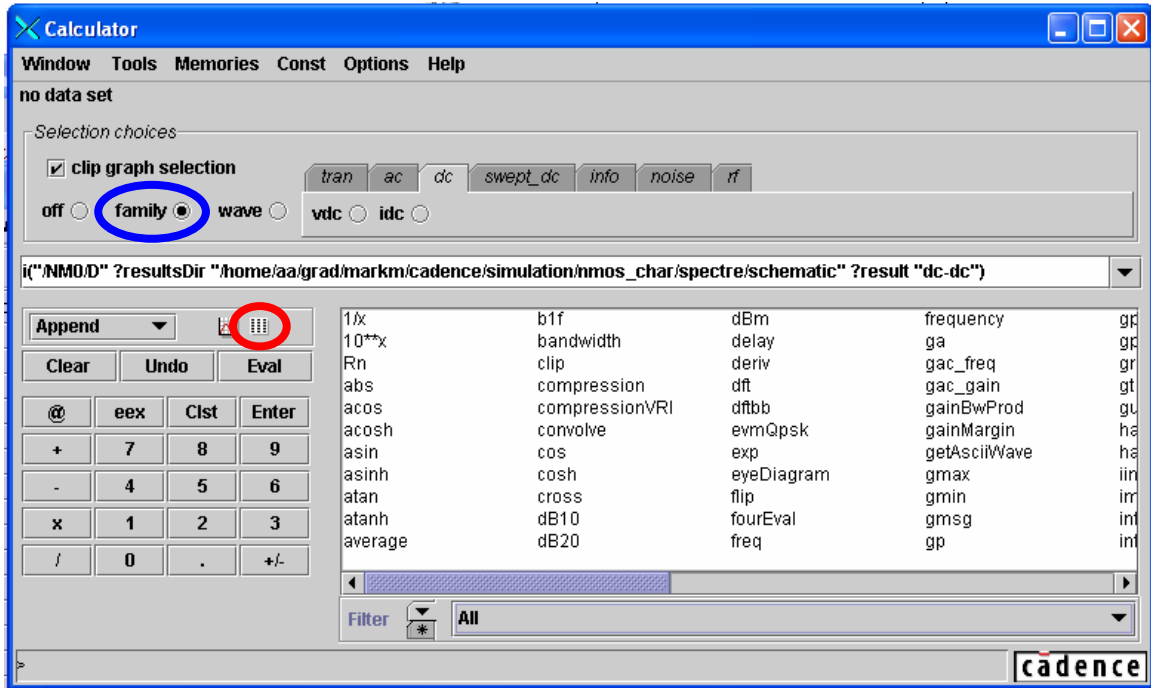
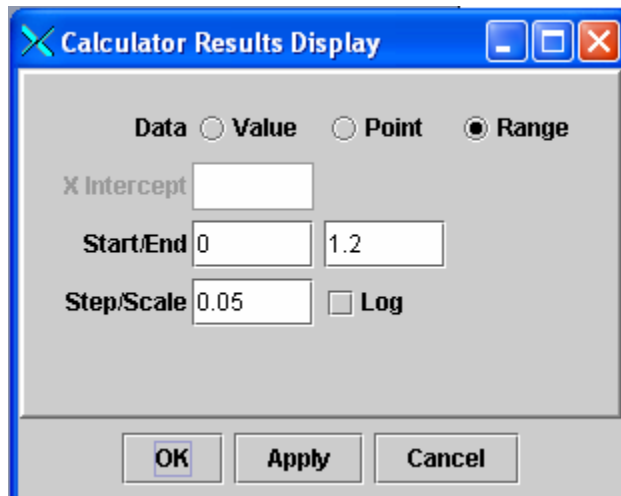
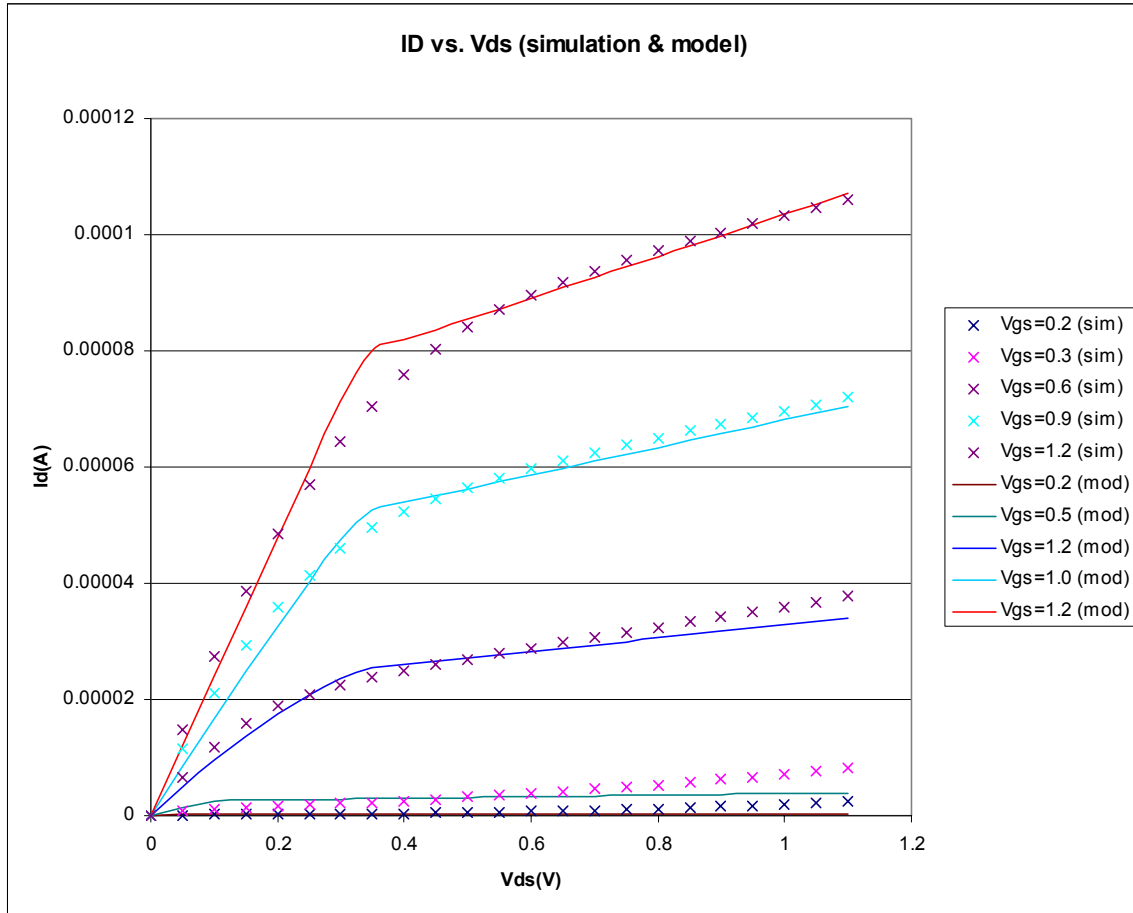

Figure 1: Using the Calculator to export simulation results
Figure 2: Choosing settings for table
Figure 3: Example for comparison of simulation and unified model
- 2) Next you should compare how well the unified MOS model with the parameters you extracted matches simulations. To do that, use the Calculator (choose Tools \rightarrow Calculator in the waveform window) to export the simulation result into a .csv file so that you can import it into Excel or Matlab. You can do so by enabling the family button in the calculator window (highlighted in blue in Fig 1) and clicking on a curve in the waveform window. After that your calculator should look like shown in Fig. 1. Then click on the table icon right next to "Append" and on top of "Eval" (highlighted in red in Fig 1). Another window pops up that allows you to chose the parameters for the table you are about to create. Choose something similar to what is shown in Fig. 2) and confirm by clicking ok. A table containing numerical results of your simulation pops up and you can "Save as" that table as a .csv file, which can be conveniently be opened by e.g. Excel. Import the data in Excel or any other tool of your choice and compare it to the results you obtain by using the unified model with the parameters you derived in part 2 (in excel e.g. you can make use of the function "min"). If you do everything correctly you will end up with something similar to Fig 3. You may actually tune the parameters you obtained in part 2 a bit to get a better match. Which part of the curves do you want to match best if you are mainly concerned with estimating the delay of inverters?